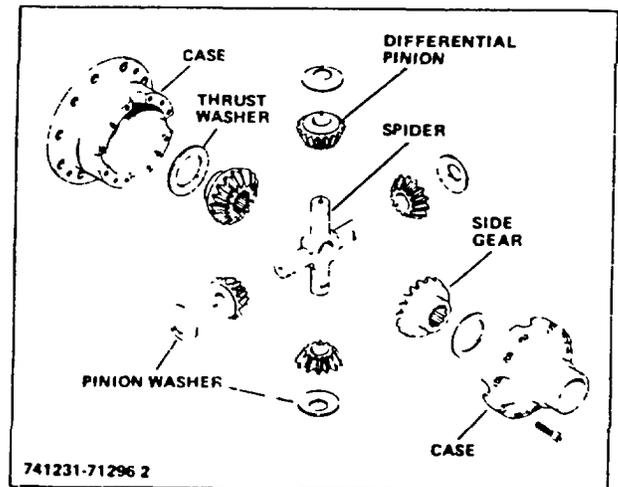

Figure 3-4. Differential Assembly
- c. Remove plain case, spider (Fig 3-4), gears, and washers.